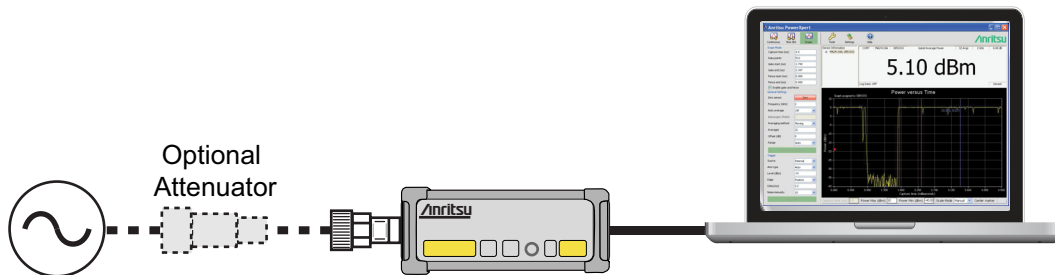

Figure 11-2. Measurement Setup
1. Connect the sensor to a computer as shown in Figure 11-2.